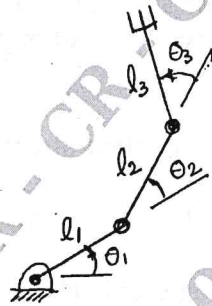

Fig. Q2 (b)
b. Derive the direct kinematic equations for 3R manipulator shown in Fig. Q2 (b) (14 Marks)